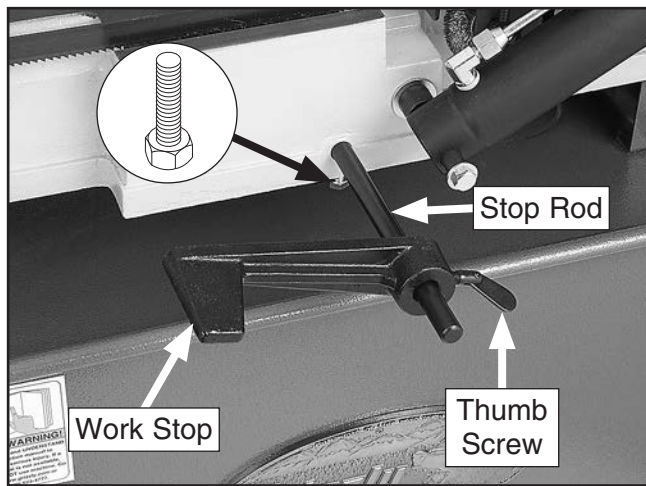

Figure 26. Work stop installed.
27. Insert work stop rod through hole in base and lock in place with hex bolt (see **Figure 26**).
28. Slide work stop over rod, then tighten thumb screw to secure (see **Figure 26**).